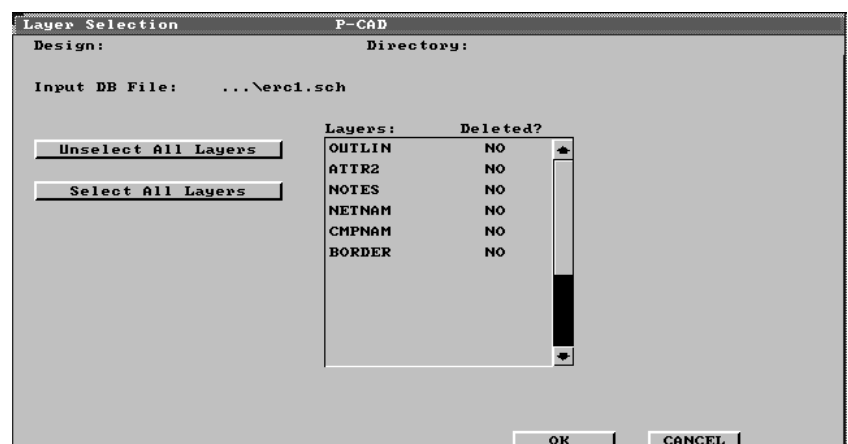

Figure 1-4: Layer Selection pop-up window
4. Click the *Layer Selection* button. A pop-up window appears, displaying all the layers in the PCB or Schematic design. Figure 1-4 displays the Layer Selection pop-up window.